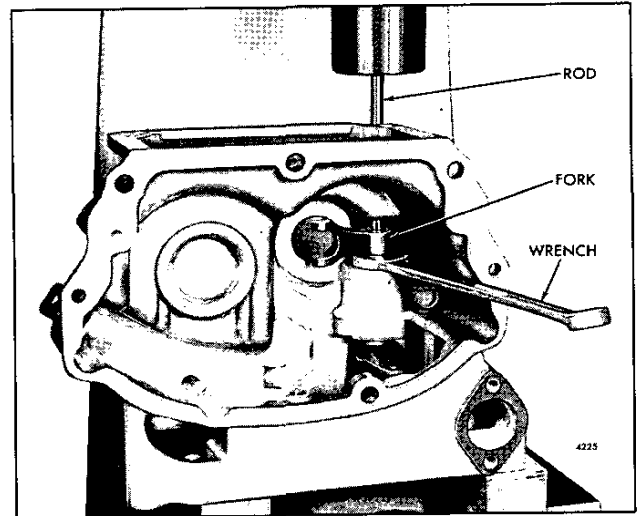

Fig. 7 – Removing Governor Operating Fork from Operating Shaft and Bearing Assembly
- f. Support the governor housing, bottom side up, on two wood blocks on the bed of an arbor press as shown in Fig. 7. Place a 9/16" open end wrench under the operating fork and the boss of the housing, then insert a rod through the cup plug hole in the housing and against the end of the operating shaft and press the shaft and bearing assembly out of the operating fork.